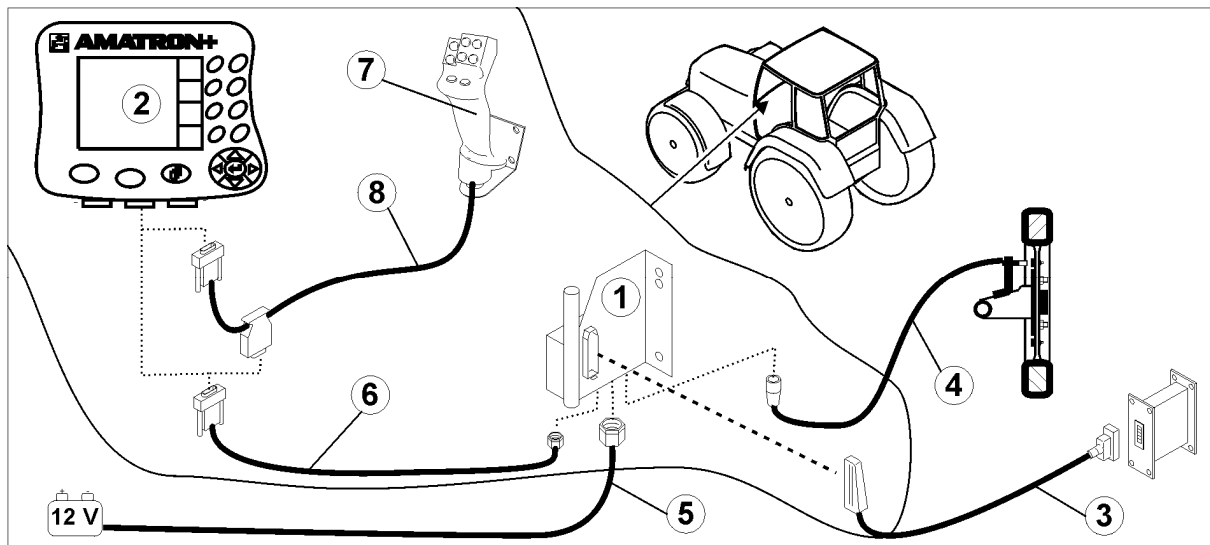
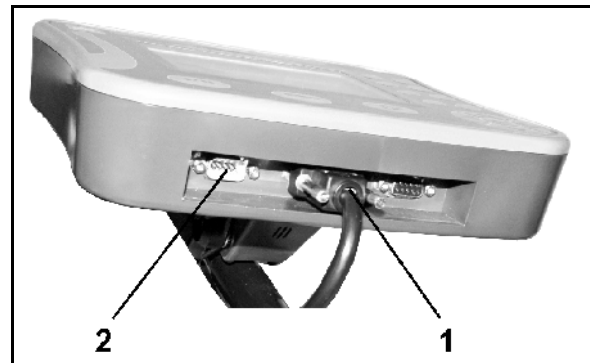

Fig. 1
Fig. 2
- The tractor basic equipment (Fig. 1/1, Konsole mit Verteiler) console with distributor) must be installed to the right of the driver in the cabin, within visual range and easy to access, vibration-free and electrically connected.
- The battery cable (Fig. 1/5).
- Signal cable from the tractor signal socket or distance sensor (Fig. 1/4).
- Connecting cable to **AMATRON⁺** (Fig. 1/6).
- Plug the **AMATRON⁺** (Fig. 1/2) into the tractor's basic equipment.
- Insert the connector of the connecting cable (Fig. 1/6) into the middle 9-pin Sub-D-bushing (Fig. 2/1).
- Connect the machine via the connector (Fig. 1/3) to the **AMATRON⁺** verbinden.
The multifunction stick (Fig. 1/7) is connected using a Y-cable (Fig. 1/8).
- The serial interface (Fig. 2/2) allows a PDA to be connected.